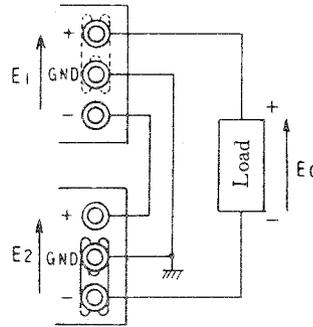

Fig.4.Connection of GND
a. For connection as in Fig.4, the output voltage, but output current will be limited to within the value specified for a single